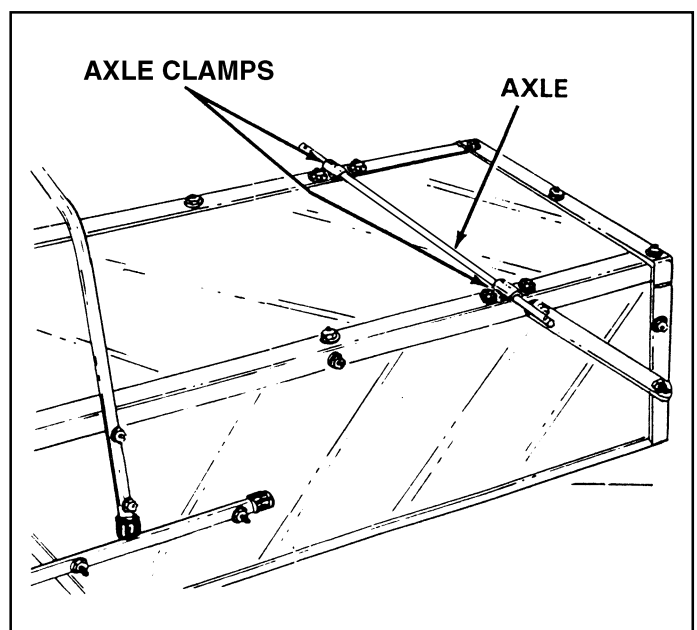

FIGURE 12
19. Lay the cart upside down. Slide the axle through the axle clamps. See figure 12.
20. Assemble a cotter pin to the inside hole at one end of the axle. Place a 1-1/2" flat washer, a wheel and then another 1-1/2" flat washer onto the axle. Secure the wheel with a cotter pin assembled to the outside hole at the end of the axle. Repeat step for other wheel. See figure 12.